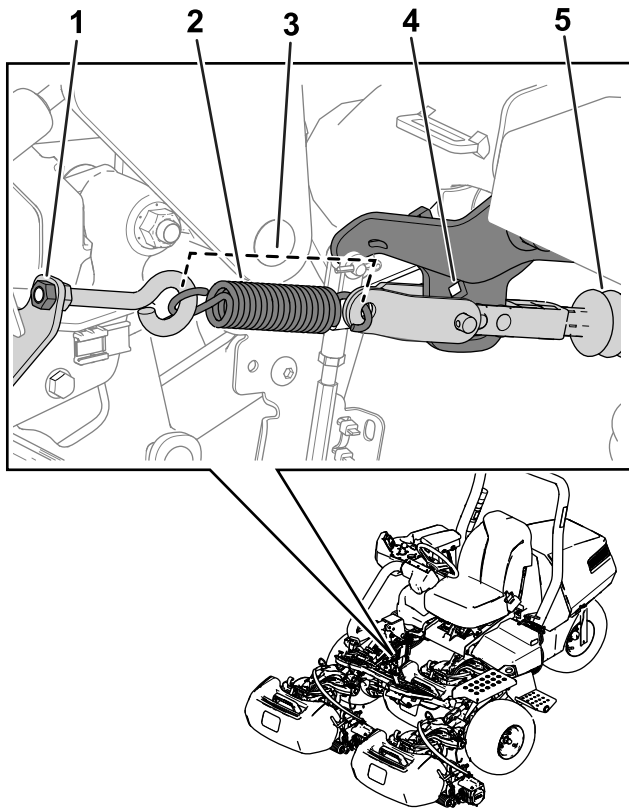

Figure 38
Note: Refer to Figure 38 for this procedure.
5. Release tension on the spring by loosening the nut that secures the eyebolt to the spring bracket (Figure 38).
3. Install the spring as shown in Figure 38.
4. Tighten the eyebolt nut so that the spring length is 11.4 cm (4.5 inches) when installed (Figure 38).